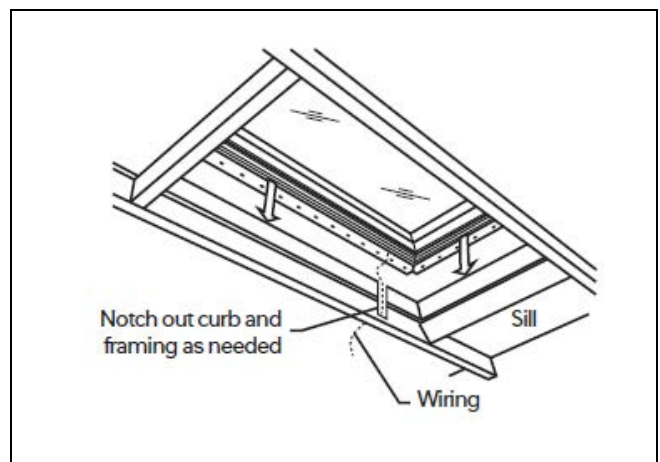

Figure 55
1. Prepare the framing for electrical wiring. See Figure 55.